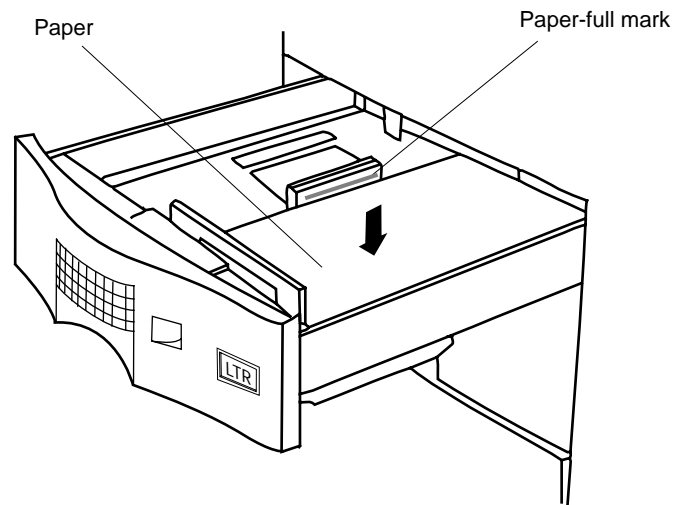

Figure 2-68 Loading the Paper in the Tray
4. Load the paper in the tray print side down. Do not stack the paper above the paper-full mark. See to Figure 2-68).